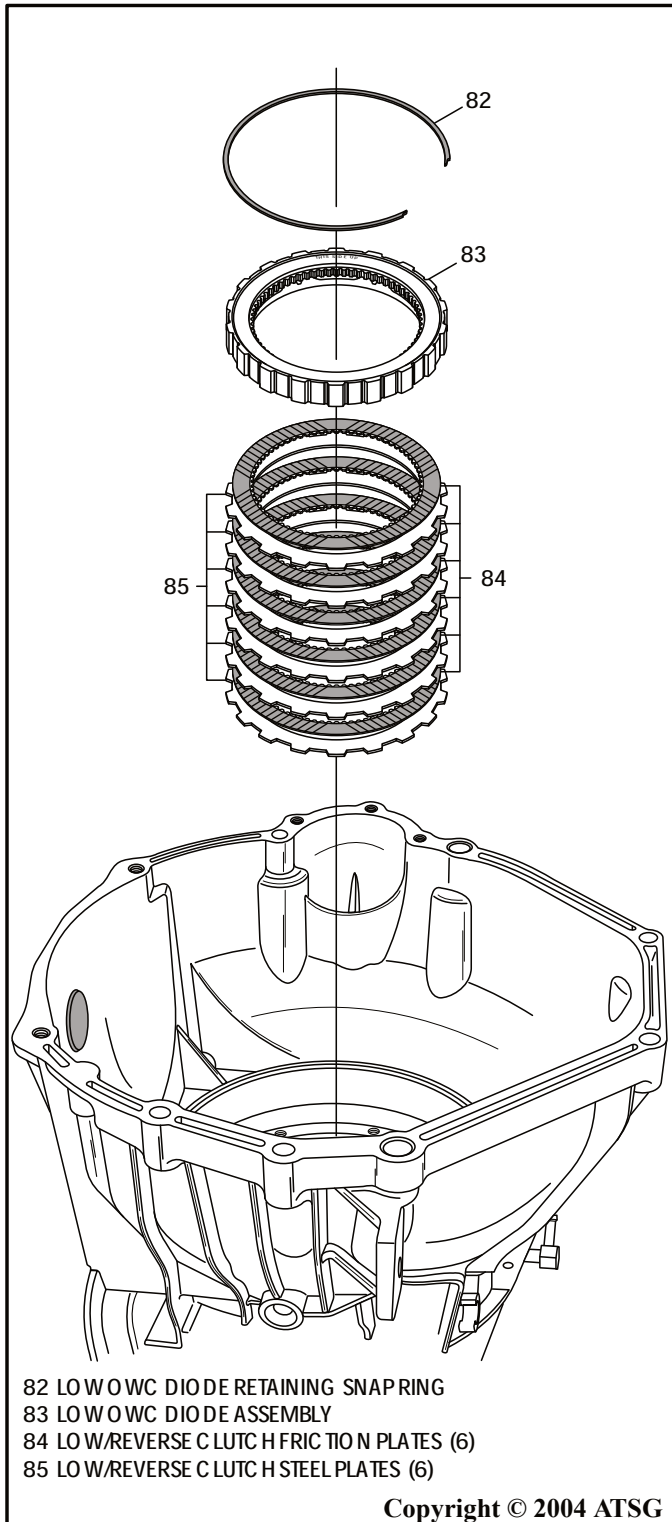

Figure 164
1. Rotate the case so that bell housing is facing up as shown in Figure 164.
2. Install the complete low/reverse clutch pack, low OWC diode assembly and snap ring, as shown in Figure 164.